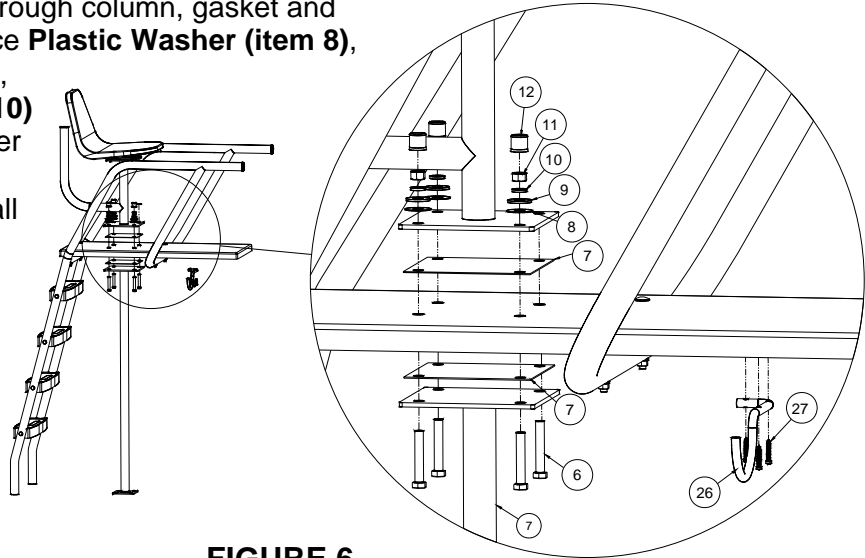

FIGURE 6
5. Place **Gasket (item 7)** onto footboard and align holes to each other. Place **Swivel Stand W/ Umbrella Holder (item 4)** onto gasket and align holes to each other. Place and hold **Bolt, 1/2" X 3" (item 6)** through column, gasket and footboard as shown. Place **Plastic Washer (item 8)**, **1/2" Flat Washer (item 9)**, **1/2" Lock Washer (item 10)** and **1/2" Nut (item 11)** over bolts and tighten. Place **Nut Cap (item 12)** over all bolt ends above Swivel Stand as shown in **FIGURE 6**. Install **Life Preserver Hook (item 26)** using three (3) **#10 X 1-1/4" Screws (item 27)**. Position on the Footboard to suit.